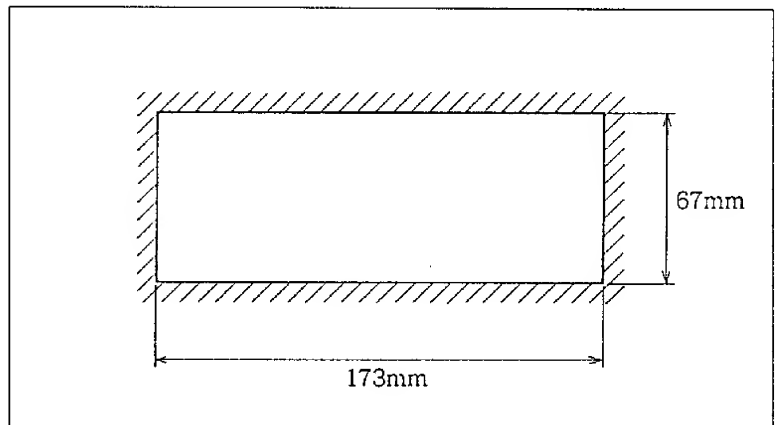

Fig.5-1
- (1) Make a hole in the mounting location as shown in Fig.5-1.